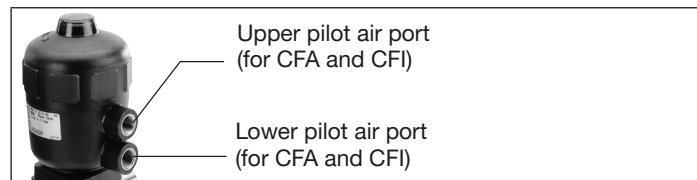

Fig. 5: Pilot air port
- Pressurise lower pilot air port (see “Fig. 5”) with compressed air (value as indicated on the type label). This is required to detach the diaphragm without damage from the body.
- Pressurise lower pilot air port (see “Fig. 5”) with compressed air (value as indicated on the type label).
- Pressurise upper pilot air port with compressed air (value as indicated on the type label) (see “Fig. 5”).
- Connect control medium to upper and lower port (see “Fig. 5” on page 13).